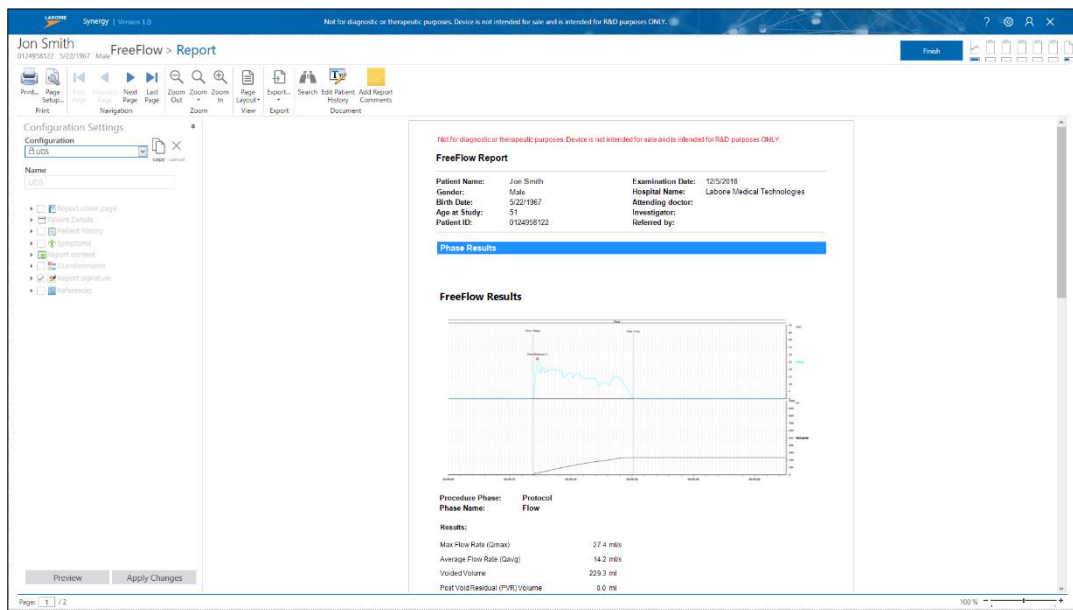

Figure 22: FreeFlow Preview Report
1. A preview of the FreeFlow Report will be generated using the default (**UDS**) configuration settings (Figure 22). The user can apply the default configuration for the report or customize the report. For information on customizing the report, refer to the Reports section on page 65.